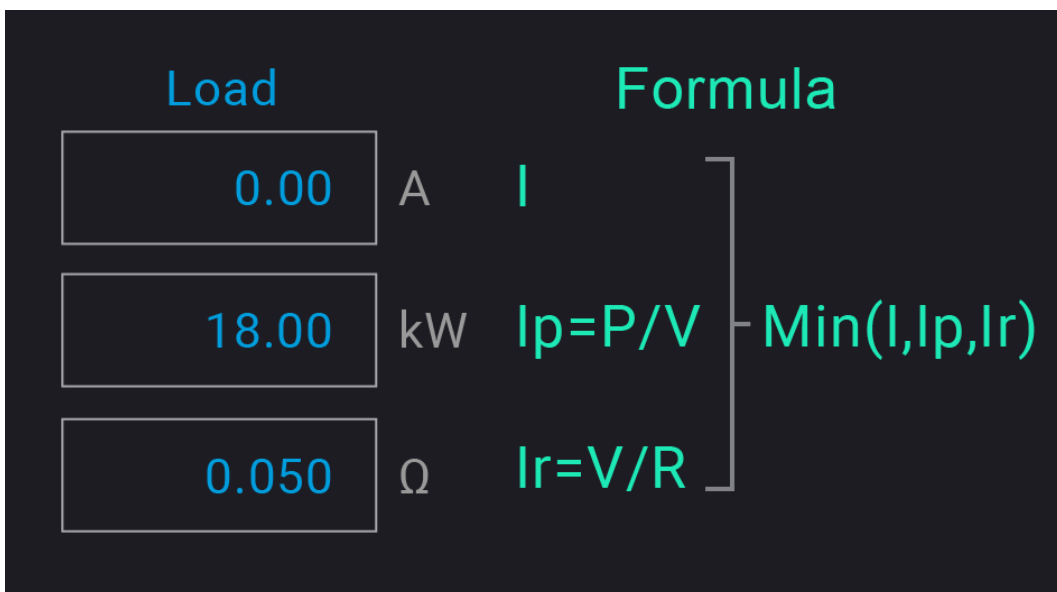

Figure 3-6
2. The actual loading current is $I=V_o/R$, thus the minimum calculated from the set value is the actual loading current as Figure 3-6 shows.